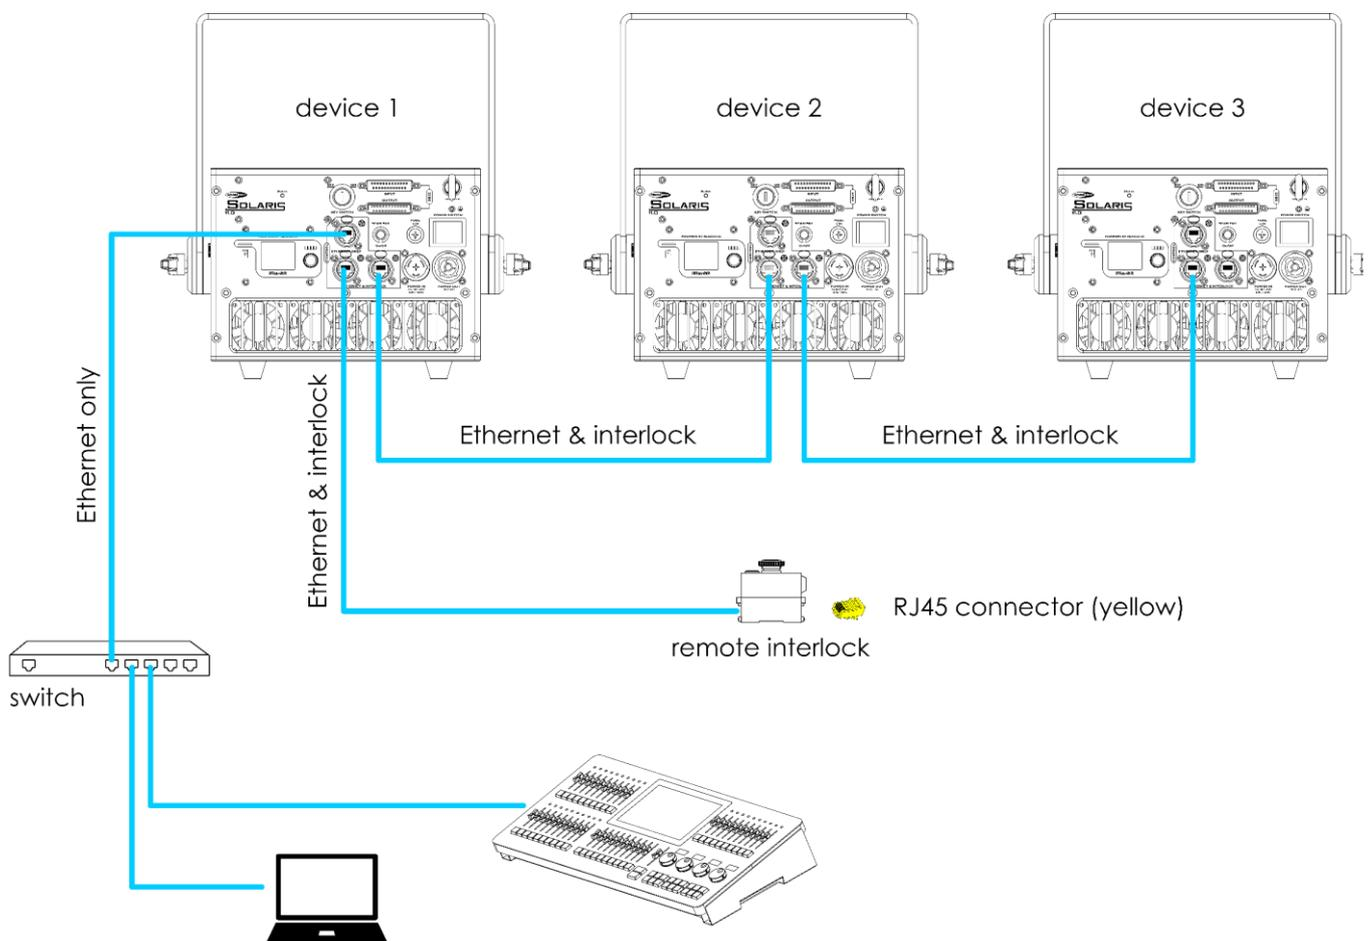

Fig. 14
Fig. 14 shows a typical setup with multiple device. Follow the steps below to connect the device to a computer/lighting controller, to the remote interlock, and to other devices:
- 01) Connect the RJ45 connector of the computer/lighting controller to the **Ethernet only RJ45 connector (12)** of the first device with a CAT-5/CAT-5E/CAT-6 cable. For larger setups you can use a switch between the first device in the setup and the computer/lighting controller.
- 02) Connect the **RJ45 connector (33)** of the remote interlock, supplied with the device, to one of the **Ethernet & interlock RJ45 connectors (23)/(24)** of the first device in the setup with a CAT-5/CAT-5E/CAT-6 cable.
- 03) Connect the other **Ethernet & interlock RJ45 connector (23)/(24)** of the first device to one of the **Ethernet & interlock RJ45 connectors (23)/(24)** of the second device in the setup with a CAT-5/CAT-5E/CAT-6 cable.
- 04) Repeat step 3 to connect all devices as shown in Fig. 14.
- 05) Insert the RJ45 connector (yellow), supplied with the device, into the **RJ45 connector (32)** of the remote interlock.